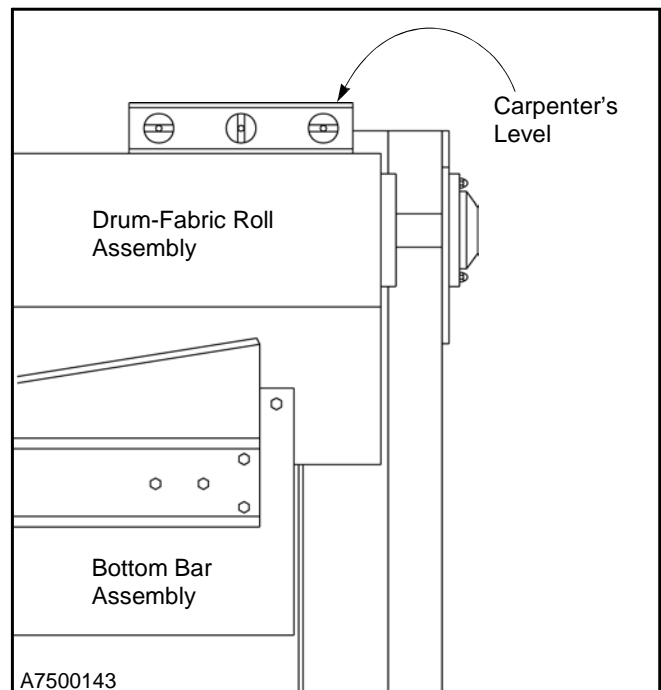

Figure 28
11. Check the drum-fabric roll assembly for level by placing a carpenter's level across the top of the assembly. Make any necessary adjustments to the appropriate side column to achieve level across the length of the assembly. (See Figure 28.)
4. At the upper end of the two weights, reconnect them with the plastic counterweight guide and the steel mounting plate. The guide and plate are mounted using two  $\frac{3}{8}$ -in. stainless steel lock washers and two  $\frac{3}{8}$ -16 x 2-in. stainless steel hex head cap screws installed through the front pair of holes in the mounting plate. Be sure to place the plastic guide between the plate and weights. (See Figure 28.)